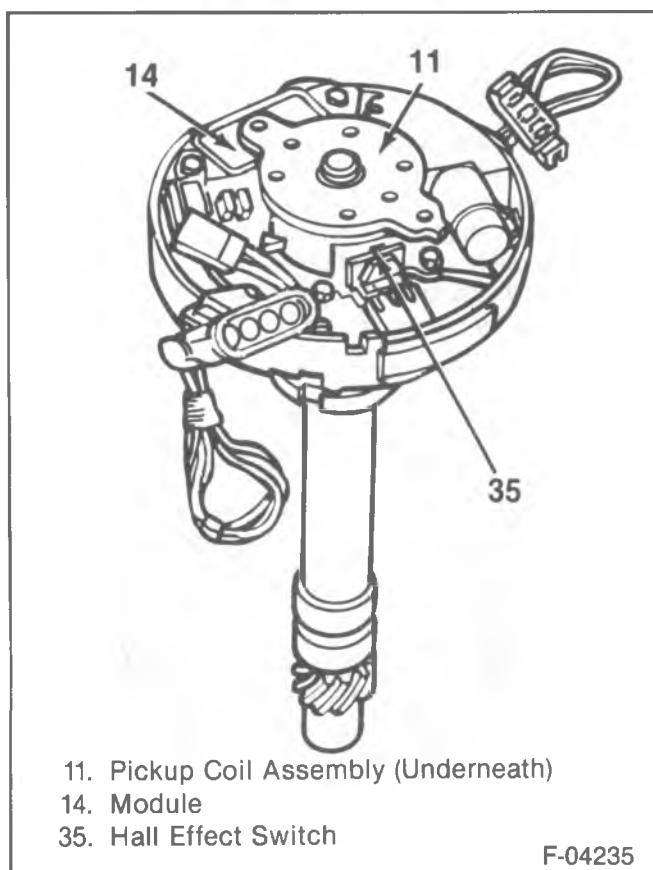

Figure 46—Distributor with Hall Effect Switch
8. Two bolts (32) holding the rotor (10) to the shaft (26).
11. Hall Effect switch (35) if equipped (figure 46).